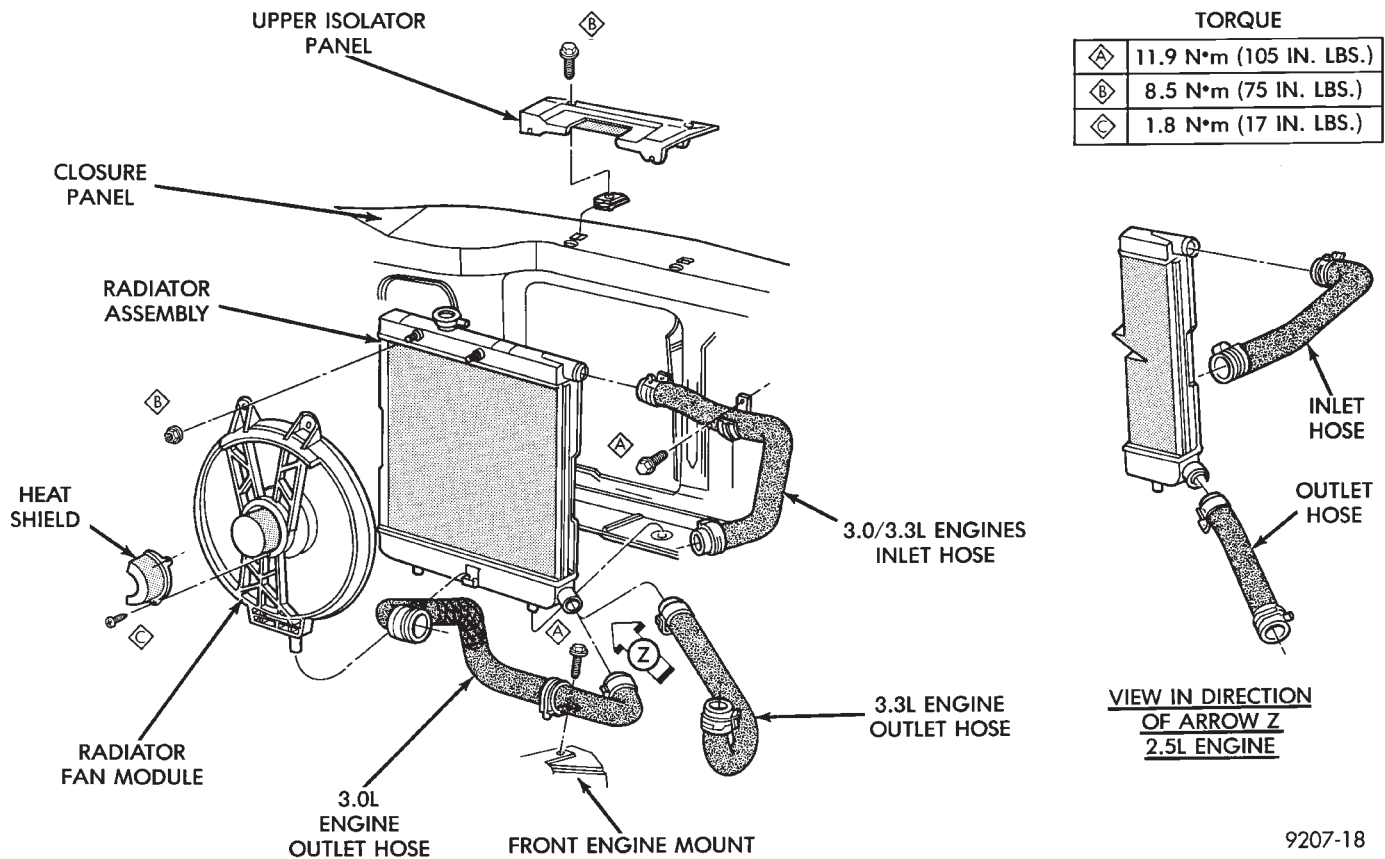

Fig. 4 Radiator, ALL
(2) Drain cooling system. Refer to Draining Cooling System of this section.
(3) Remove hose clamps and hoses from the radiator (Fig. 4).
(1) Slide radiator down into position behind radiator support (yoke). Seat the radiator with the rubber isolators into the mount holes provided, with a 10 lbs. force .
(2) Install the upper isolator panel. Tighten radiator mounting bolts to 11.9 N•m (105 in. lbs.) (Fig. 4).
(3) Connect automatic transmission hoses (if equipped).
(4) Slide fan shroud, fan and motor down into clips on lower radiator tank. Attach upper shroud screws.
(5) Install upper, lower radiator hoses (including coolant reserve hose) (Fig. 4) and fan motor electrical connection. See **Refilling Cooling Systems**.
(6) Connect negative battery cable.
The 2.5L engine lower radiator hose **MUST** be clipped to front engine mounting bracket to protect hose from fan and road damage. (Fig. 4)
All models use electric motor driven cooling system fans. The fan modules include a motor support which may (depending on model) include a shroud. The module is fastened to the radiator by screws, see (Fig. 4).